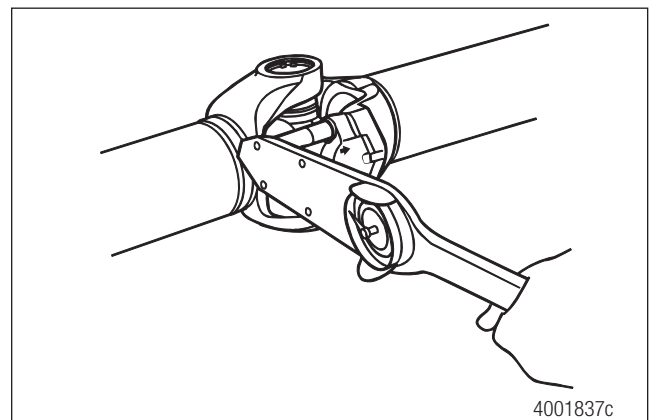

Figure 5.64
4. Use a torque wrench to alternately tighten the capscrews to 115-135 lb-ft (155-183 Nm). Figure 5.64.